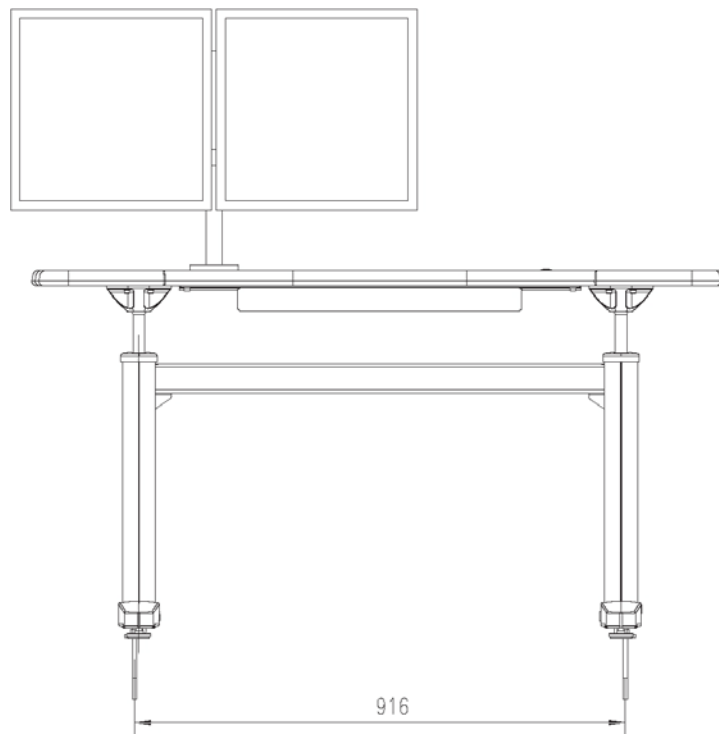

Figure C-19 Bracket and M8 x 137 Bolts
- 1.) Use M8 x 137 bolts to mount the brackets to the floor at a distance 916mm (Figure C-19).